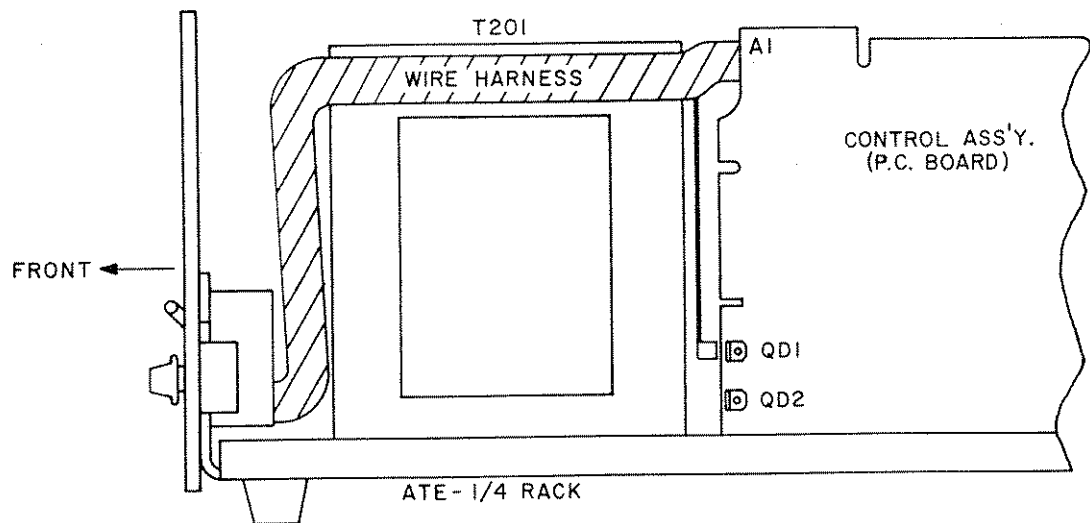
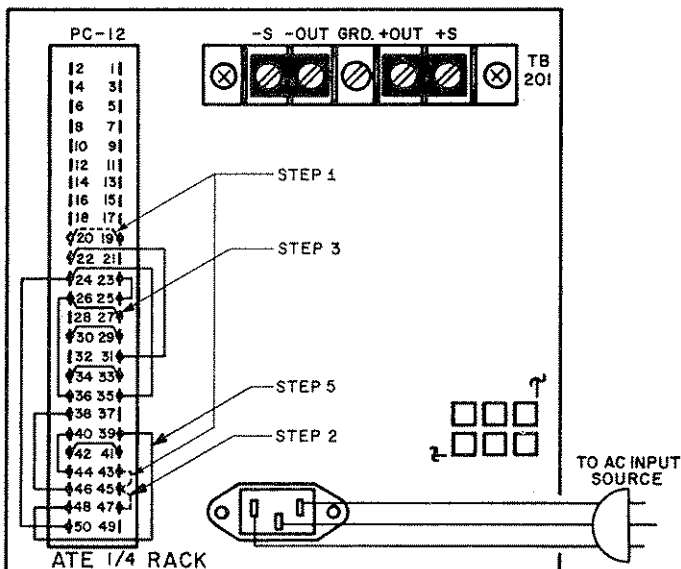

FIG. 2-5 LOCATION OF INTERNAL SIGNAL GROUND. SIGNAL GROUND NETWORK SHOWN CONNECTED VIA QD-1. TO REMOVE SIGNAL GROUND, PLACE WIRE LUG ONTO QD-2.
FIG. 2-6 REQUIRED STEPS FOR ATE
A resistor/capacitor network (R59, C27), is connected from the negative output terminal to the metal chassis of the power supply (via QD-1). If the internal signal ground is *not* desired, the connection to the chassis can be opened by changing the wire lug position from QD-1 to QC-2 (See FIG. 2-5).
- 2-17 MANUAL CHANGE-OVER, SLOW/FAST MODE. The ATE power supply is normally delivered for operation in the "slow" mode. By changing jumper connections at the rear of the power supply, the user can quickly convert from the "slow" mode to the "fast" mode or vice versa (See FIG. 2-6).
- STEP 1: Remove Links (19)-(20) and (43)-(45) on PC-12. This removes the output capacitor ( $C_o$ ).
- STEP 2: Remove jumper (45)-(47) on PC-12. This removes the main feedback capacitor ( $C_f$ ).
- STEP 3: Connect wire jumper on PC-12 from (26) to (27). This connects a lag network.
- STEP 4: Refer to Section II, FIG 2-5 and remove the internal grounding network.
- STEP 5: Connect wire jumper from (39) to (48) on PC-12. This introduces a required delay in the crowbar circuit.
- 2-18 PRECAUTIONS. The output capacitor, and to a lesser extent, the feedback capacitor of a power supply, control the programming speed and the current mode recovery time. The removal of these capacitors in the fast mode results in greatly improved power supply performance in these areas. The power supply's dynamic stability, however, is reduced, making the output sensitive to the load phase angle. For this reason, the load presented to the power supply in the fast mode must not contain excessive capacitance (limit: 1000pF). Also, with the output and main feedback capacitors removed, there will be an increase in the output noise, mainly high frequency noise and pick-up, so that external shielding of programming leads and good grounding practices assume added importance in the fast mode operation. See also note in FIG. 2-6.